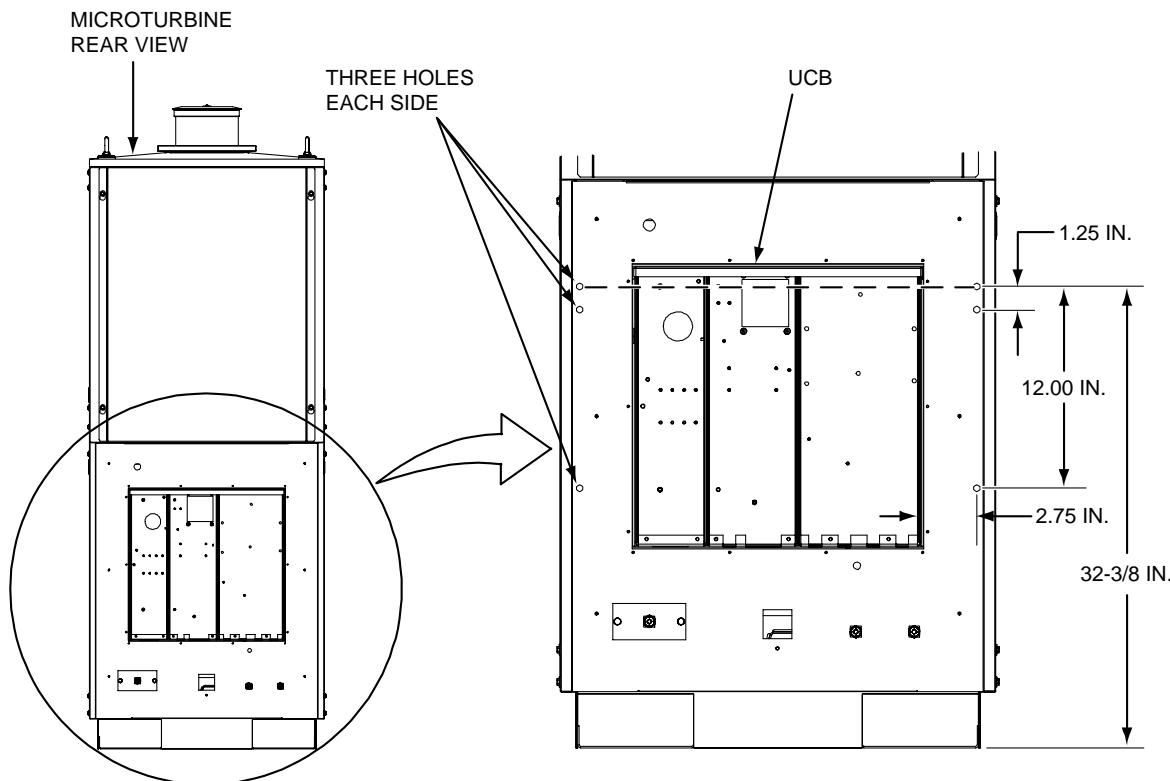

Figure 2. Mounting Frame Hole Locations on Back of MicroTurbine
- a. Locate and mark the 32-3/8" vertical distance on the left and right sides on the back of the MT (see Figure 2). Use other dimensions as reference.